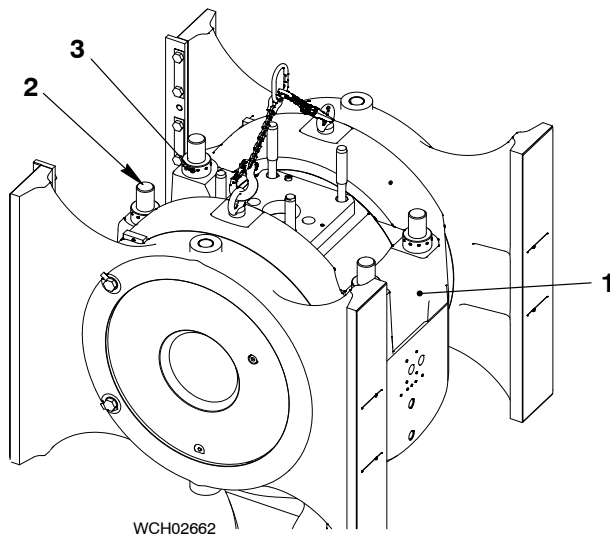

Fig. 6
- 10) Attach the round nuts (3, Fig. 6) to the elastic bolts (2).
- 11) Use the pre-tensioning jack (94315) to apply tension to the elastic studs (2) refer to 9403 4.
- 12) Use a round bar to tighten the round nuts (3).